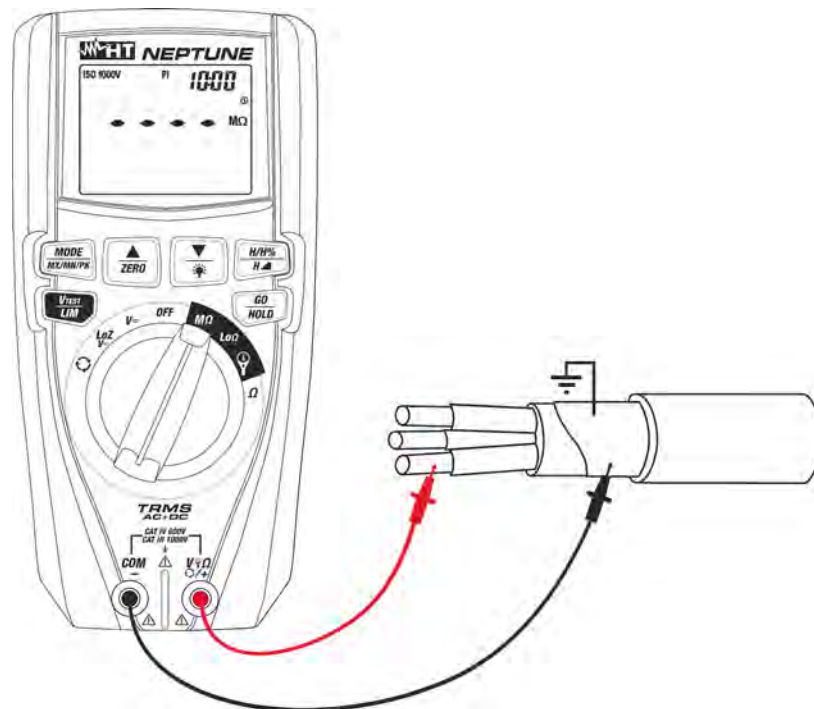

Fig. 22: Use of the instrument for insulation resistance measurement in PI mode
6. Insert the red lead into input terminal **VΩΩ/+/+** and the black lead into input terminal **COM/-** and possible alligator clips, and connect the instrument to the appliance to be tested (see Fig. 22).